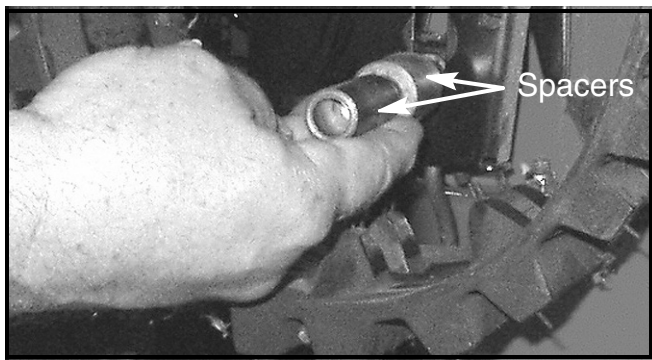

FIGURE 4
9. Remove both idler track wheel spacers from each side of the idler axle. See Figure 4.